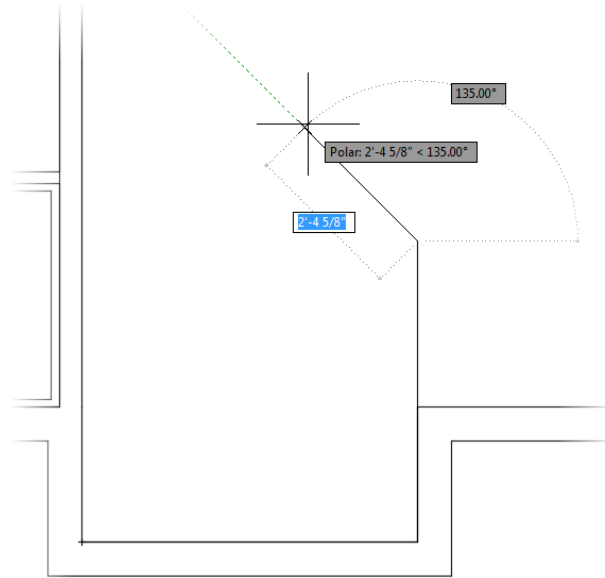

FIGURE 5.71: Use Polar Tracking and direct input to draw the diagonal line.
5. Place the cursor above and to the left of the current last point, until the Polar Snap tooltip reads 135°. Then enter **3'6-7/8" ↵** (**1089 ↵**) to draw the diagonal line (see Figure 5.71).